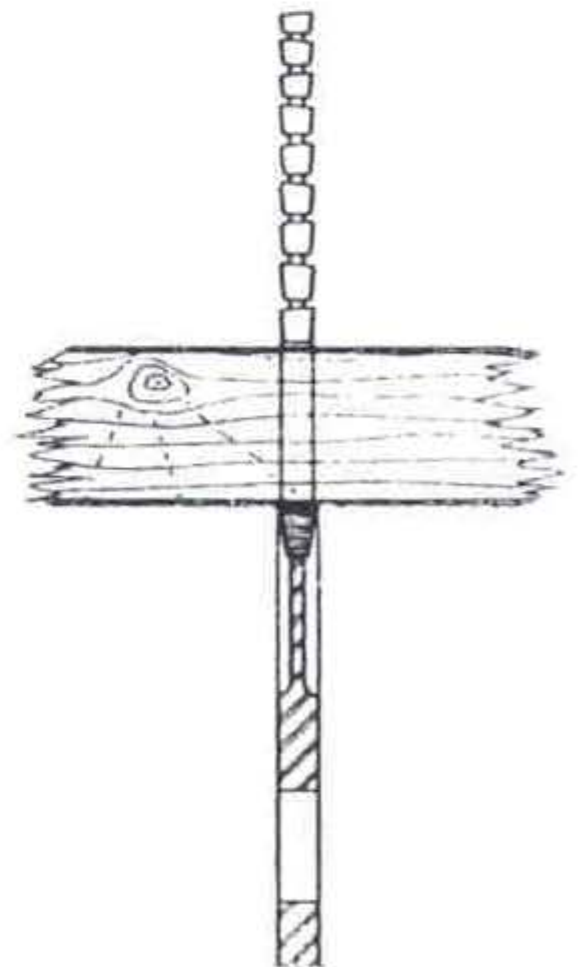

Fig. 32
- Using a profiled scoring blade as in (fig. 32) it is possible to obtain on the edges of a panel, two more or less large chamfers, that are particularly useful in certain cases.